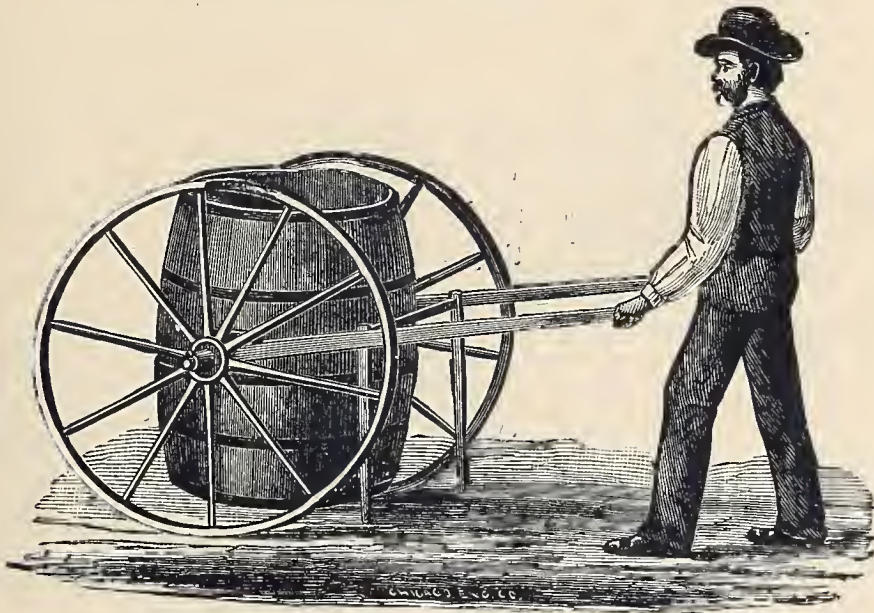

Fig. B 538.—Water-Barrel Cart.
*The Water Barrel Cart*, illustrated at *Fig. B 538*, is a very convenient and useful cart for carrying water, and innumerable other purposes. These, as made by us, are so constructed that the barrel can be readily detached from the frame, and thus several barrels can be utilized if desired. For export we usually furnish complete, less barrel, as any oil or varnish barrel will answer the purpose.